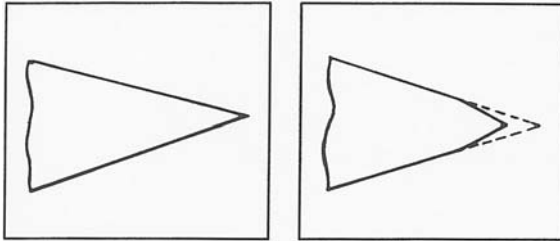

Fig. 18
Coarse honing must be followed by fine honing using the Leica Fine Abrasive. As illustrated in Figure 10, the coarse honing action produces a single facet. In proceeding with the fine honing operation, a second cutting facet is ground on the knife at the cutting edge as shown in **Figure 18**.
6. Place the second plate between the two glass retainers so that it is lying flat. It is unimportant as to which side is down first (Figure 18).